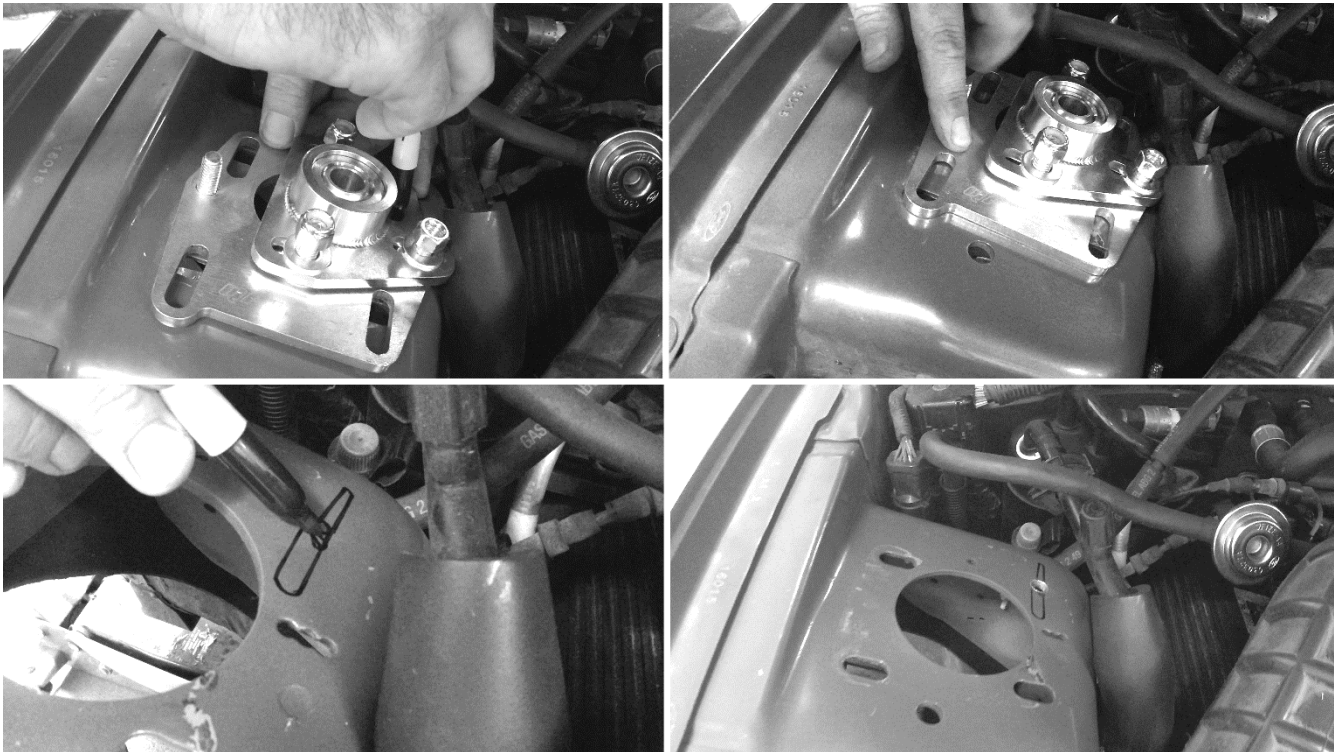

Figure 2
13. A fourth hole will need to be drilled for installation (**Figure 2**). Place the appropriate bottom plate on top of the strut tower, visually aligning the three existing holes of the chassis with the rear most position of the bottom plate slots. Trace the complete fourth hole onto the chassis.